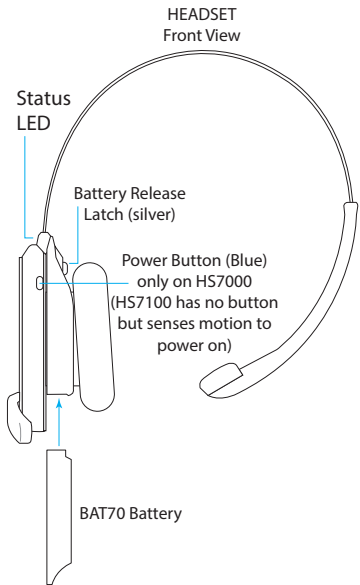

Fig. 3.3
1. Install a charged BAT70 battery into the headset. It powers on if using HS7100, or press the power button to turn on if using HS7000 (see Fig. 3.3). The LEDs flash green and red.